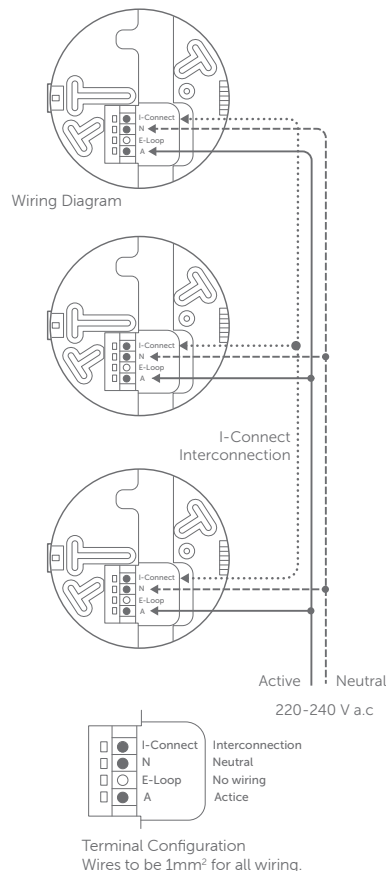

Figure 7
2. If more than one alarm is used, then the alarms must be interconnected either using the link wire on the I-Connect terminal (refer Figure 7) or using a Smart Wireless Module (ZSC-SS). (See page 13.)